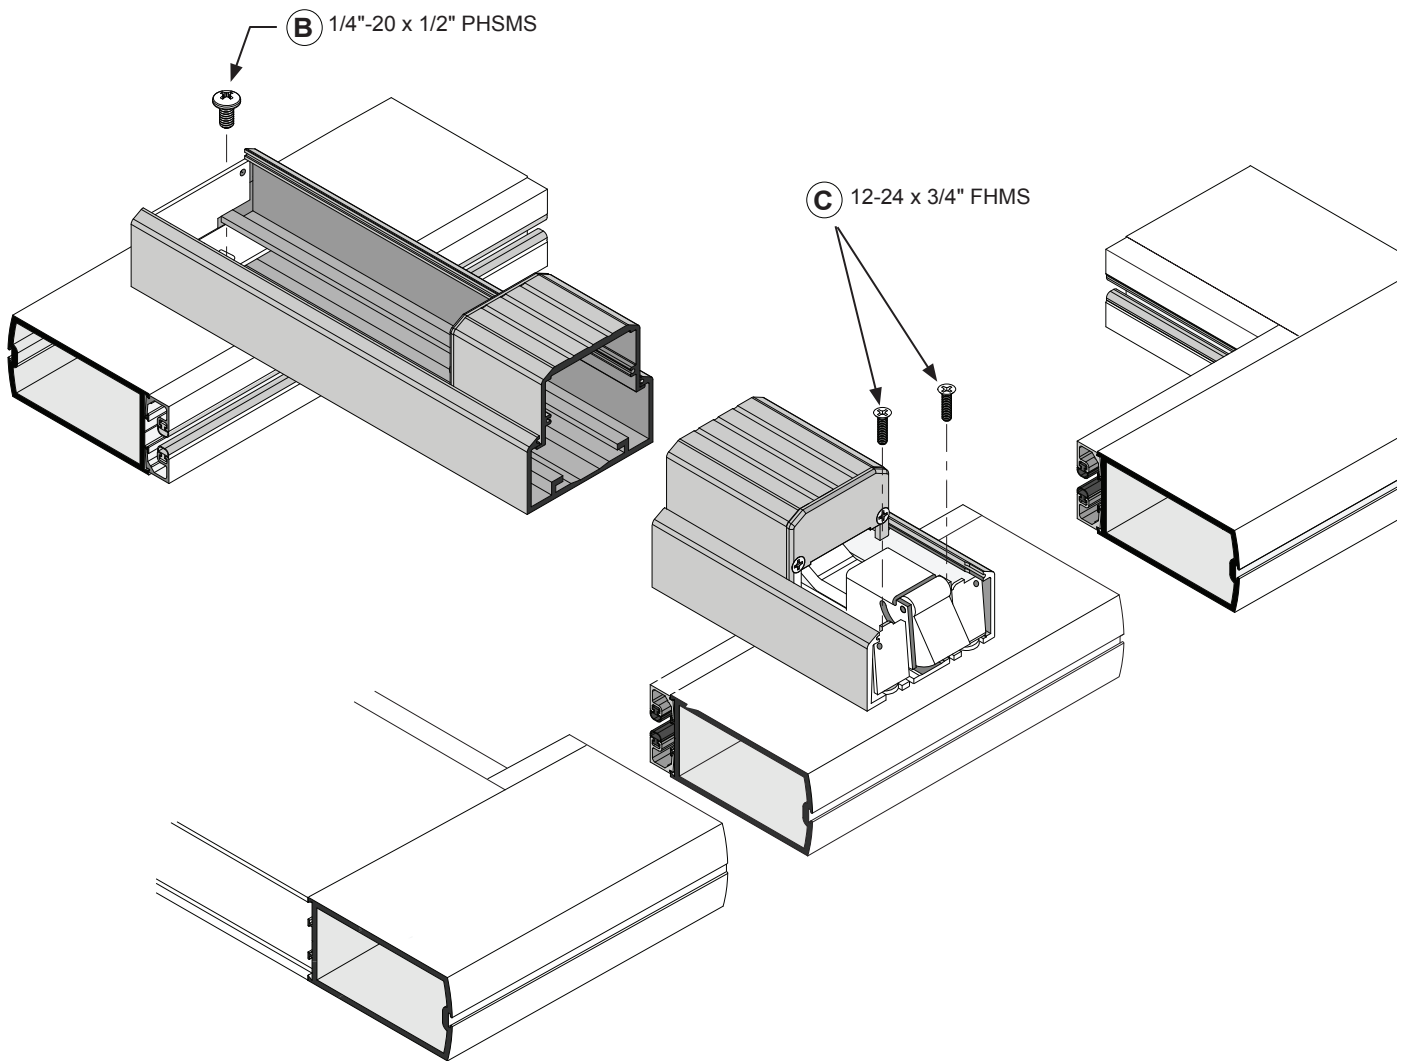

FIG. 11
1. Attach exit panic device to door with **C** (2) 12-24 x 3/4" FHMS on active stile and **B** (1) 1/4"-20 x 1/2" PHSMS at end cap bracket on inactive stile as shown in Fig. 11.